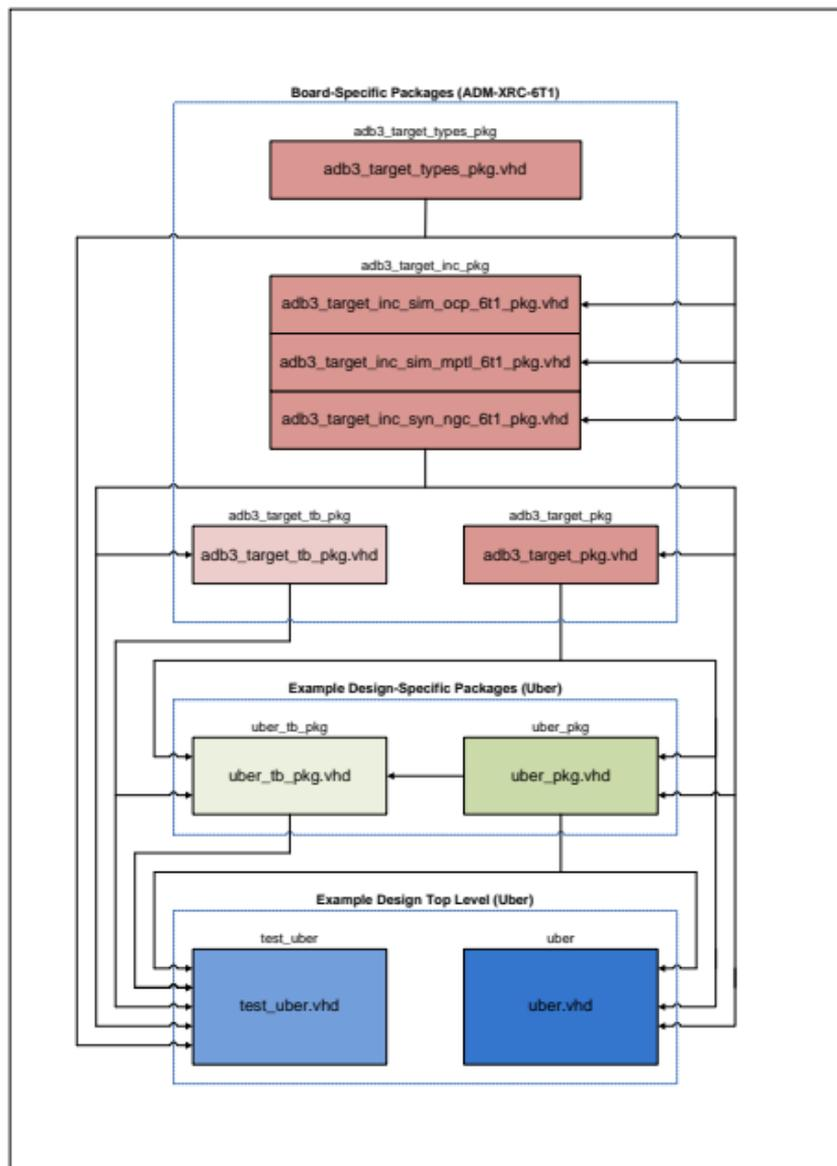

Figure 9: Uber Design Package Dependencies
**Figure 9** shows the design package dependencies.